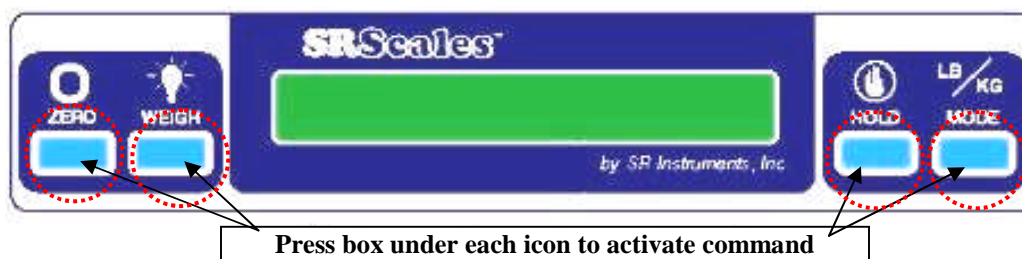

Figure 5: Button Display
| Figure 5: Button Display | 10 |
STEP 2: (Figure 5) Place the scale on its side and open the battery compartment cover located in the bottom of the scale base.
STEP 3: Remove and replace ALL six (6) “C” cell batteries. Refer to diagram on the battery compartment cover for placement.